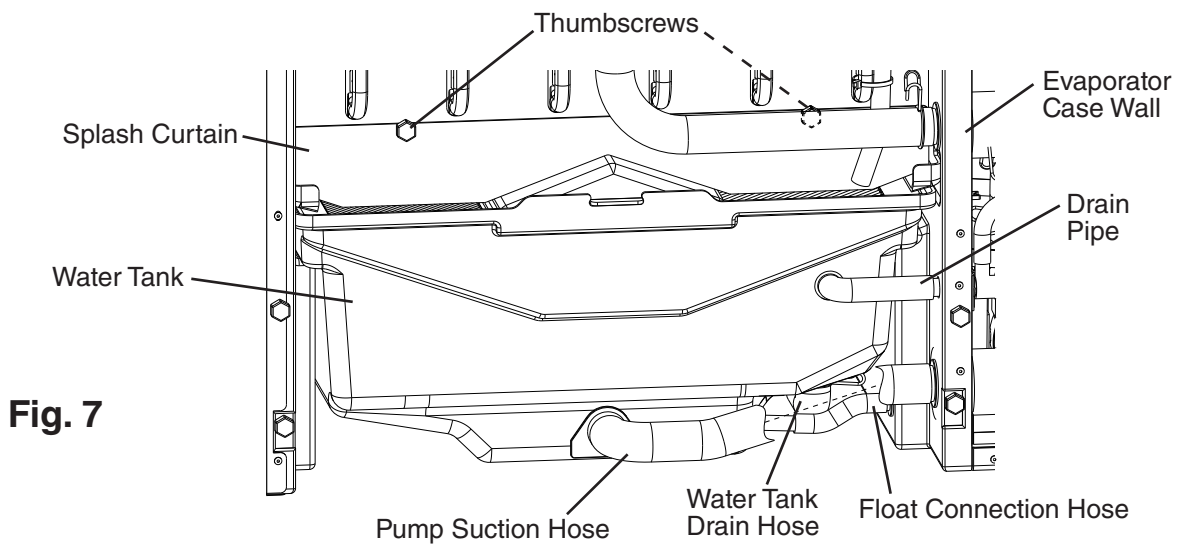

Fig. 7
- 1) Remove the 2 thumbscrews securing the splash curtain, then remove the splash curtain. See Fig. 7.